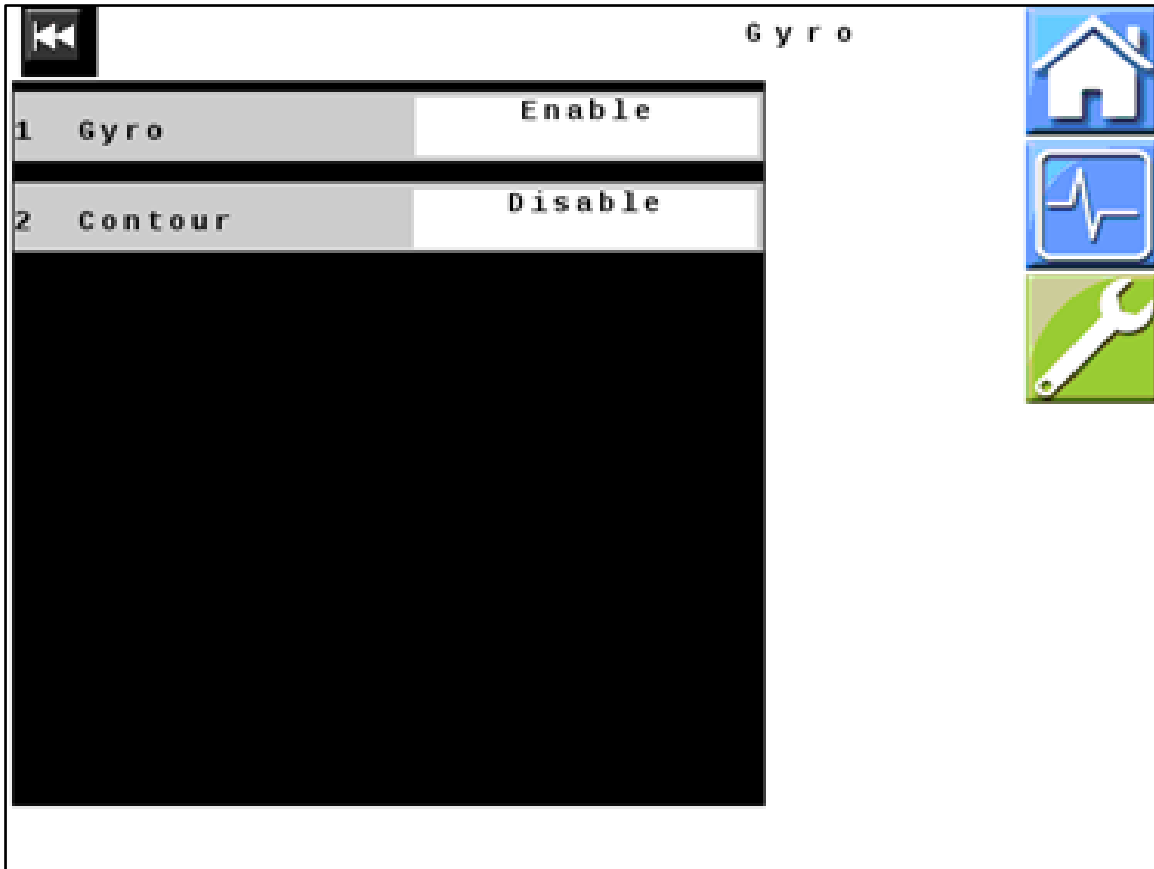

Figure 24 — Gyro
43. *Figure 24:* Verify that all values displayed on your unit match those shown here. Change values if necessary.